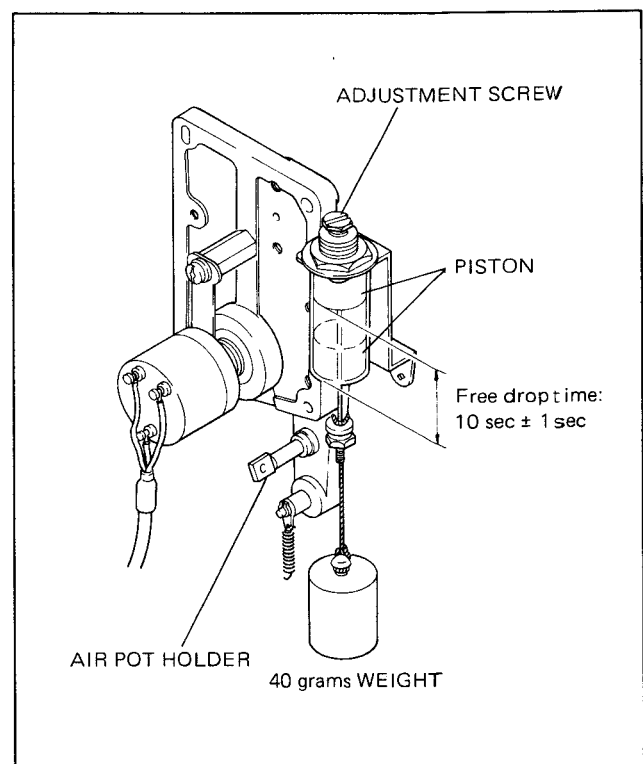

Fig. 3-44. Damping Speed Adjustment
5. Apply a 40 grams weight as shown in Fig. 3-44 to the tip of the connection rod, push the piston against the end of the cylinder, and release it quietly. Confirm that the time required for free dropping of the cylinder over the distance shown in the figure is $10 \text{ sec} \pm 1 \text{ sec}$. If necessary, adjust with the adjustment screw at the end of the cylinder.